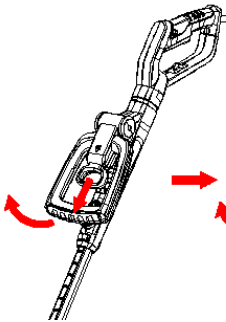

Fig. 4
1. Place the secondary handle on the tool as shown. (Fig. 4)